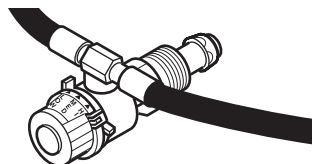

Figure 2 - Attaching Burner Hoses to Regulator
- Connect the burner hoses together as shown in Figure 2. Wrench tighten to insure leak tight connection.